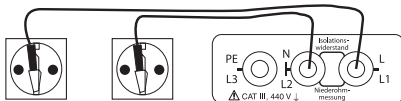

Figure 5.1.2: Low impedance measurement connection
- ▶ Now connect both test leads to the UUT; please refer to Figure 5.1.2 for connection.